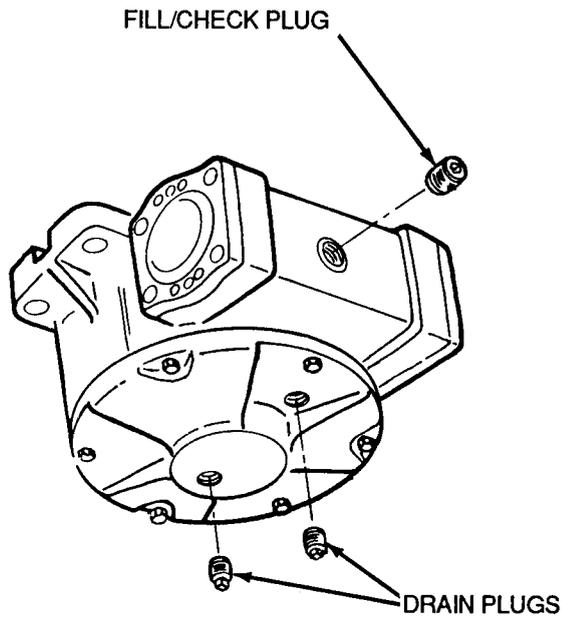

Figure 3-14
3. Remove drain plugs and fill/check plug (Figure 3-14) to drain oil.